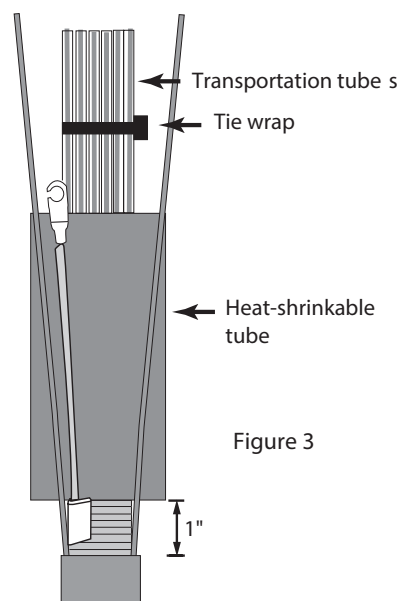

Figure 3
11. Slide the 4"-long black heat-shrinkable tube (included with cable termination components in cable seal and closure kits) over the transportation tubes and funnel, but under the strength members and bonding wire. The tube should be 1" from the ring cut. If a shield is present in the cable, the tube should be flush with the edge of the shield. (Fig. 3)